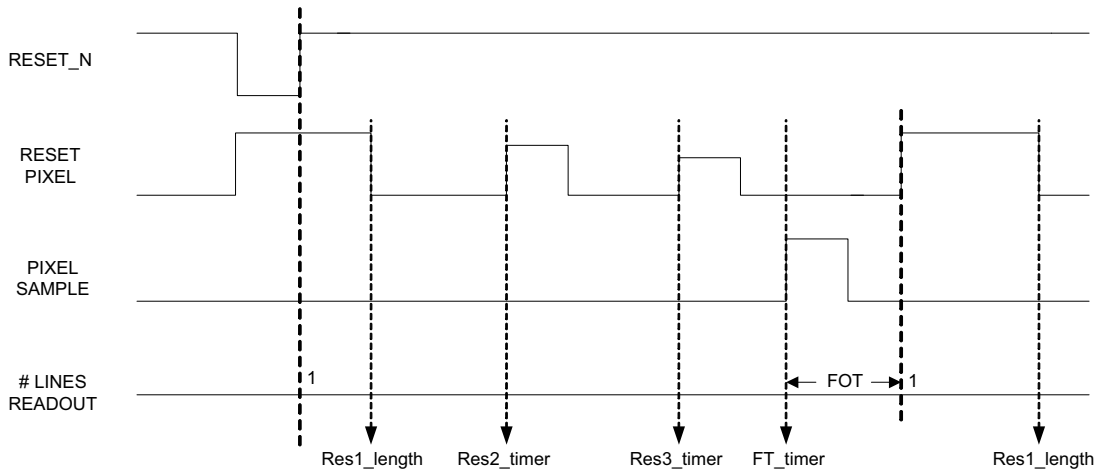
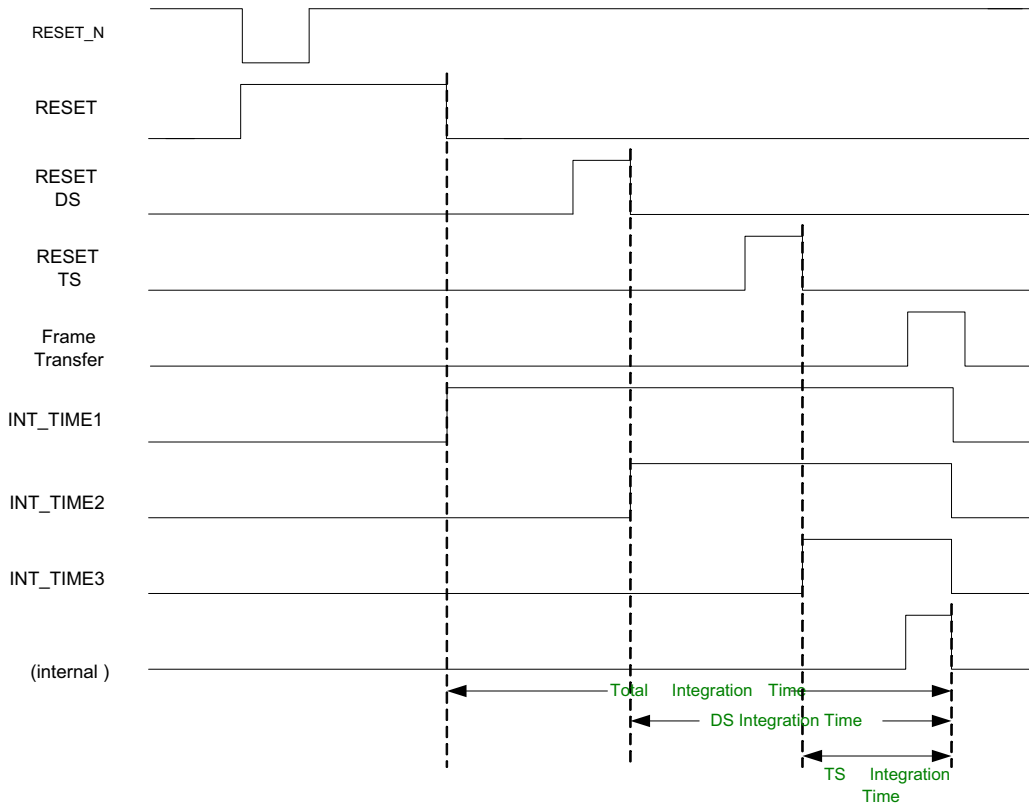

Figure 15. Integration Timing in Master Mode
Figure 16. INT_TIME Timing
In mastermode the integration time, the dual slope (DS) integration time, and triple slope (TS) integration time are set by the SPI settings. Figure 15 shows the integration timing and the relationship with the SPI registers. The timing concerning integration is expressed in number of lines read out. The timing is controlled by four SPI registers which need to be uploaded with the desired number of lines. This number is then compared with the line counter that keeps track of the number of lines that is read out.
The length of the integration time, the DS integration time and the TS integration time are indicated by 3 output pins: **INT_TIME_1**, **INT_TIME_2** and **INT_TIME_3**. These outputs are high during the actual integration time. This is from the falling edge of the corresponding reset pulse to the falling edge of the internal pixel sample. Figure 16 illustrates this. The internal pixel sample rises at the moment defined by **FT_TIMER** (see Figure 15) and the length of the pulse is $4 * (12 * (\text{GRAN} < 1:0 > + 1) + 2)$.